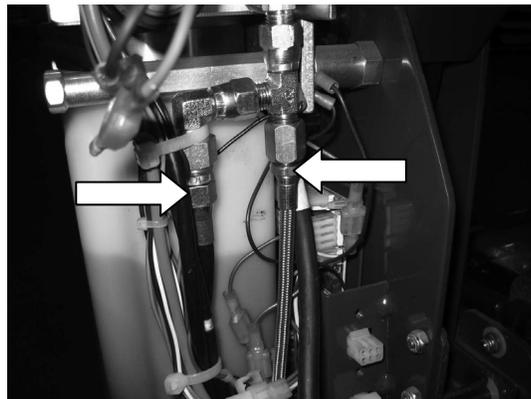

FIGURE 3-41
5. Refer to **Figure 3-41**. Disconnect hydraulic hoses from pump only.